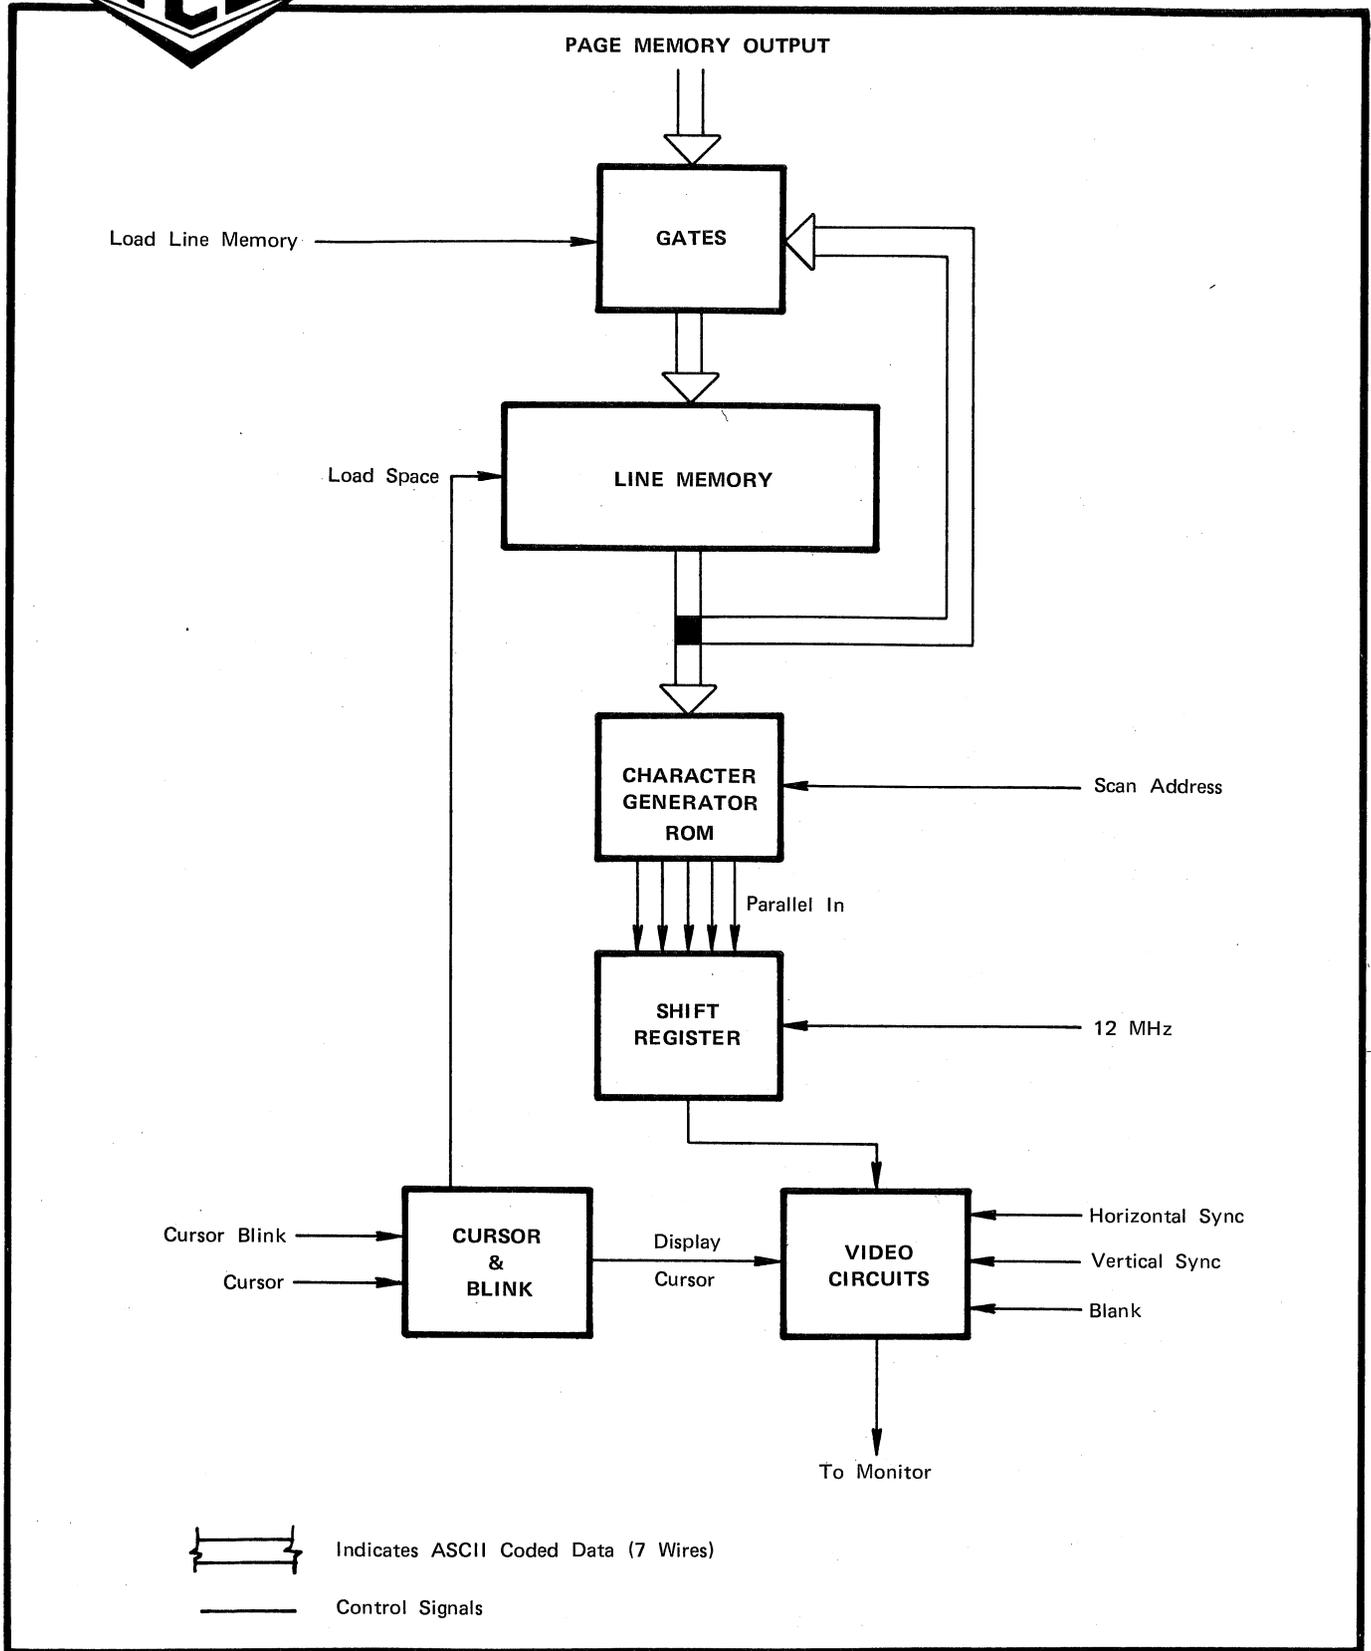

FIGURE 9 FUNCTIONAL DIAGRAM - CHARACTER GENERATOR
**CHARACTER GENERATOR – Board 2. See Functional Diagram, Figure 9.**